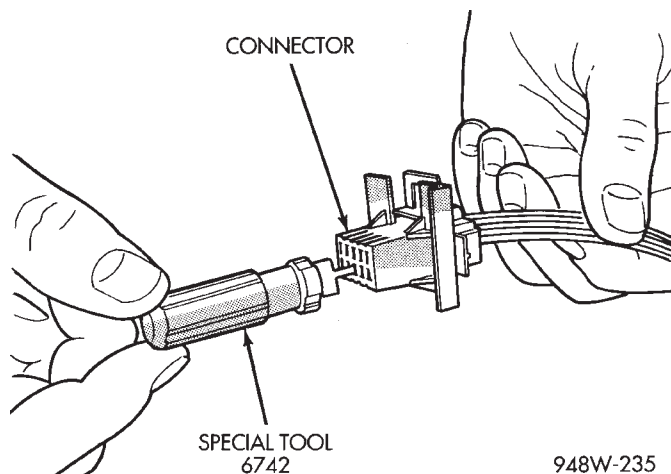

Fig. 15 Using Special Tool 6742
- (4) Using special tool 6742 release the locking fingers on the terminal (Fig. 15).
- (5) Pull on the wire to remove it from the connector.
- (6) Repair or replace the connector or terminal, as necessary.